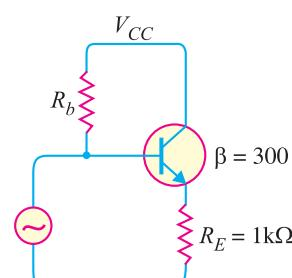

Fig. 13.31
7. In Fig. 13.31, if input and output impedances without feedback are $2\text{ M}\Omega$ and $500\text{ }\Omega$ respectively, find their values after negative voltage feedback. **[302MΩ; 1.6Ω]**